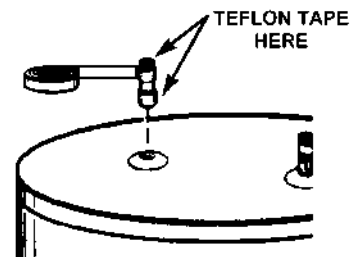

FIGURE 7.
2. Wrap the 3/4" nipples with teflon tape or pipe joint compound and screw into the water heater where it's marked "HOT" and "COLD." See Figure 7. Wrap the other ends of nipples with Teflon tape or pipe joint compound and screw one end of each flexible water connector onto each nipple.
4. Put two or three turns of Teflon tape or pipe joint compound around both the threaded end of the 3/4" x 3" nipples, and using a pipe wrench, tighten the nipples into the "HOT" and "COLD" fittings on the water heater. See Figure 7.